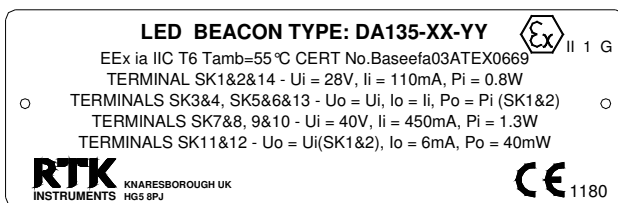

Figure 4: Certification label.
- The certification label (Figure 4) on the top of the unit shows all relevant safety information, and code letters indicating LED colour(s).